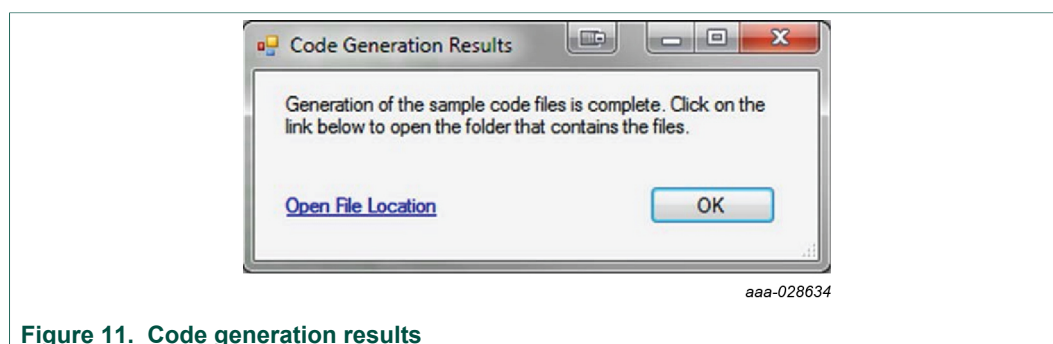

Figure 11. Code generation results
- In the PT2001 Developer Studio toolbar, select **Tools -> Generate PT2001 Load Data Code**. When the regeneration process completes, the Code Generation Results window appears as shown in Figure 11.